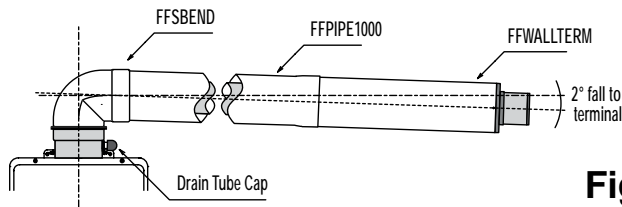

Fig. 2
HORIZONTAL EXTENDED (FIG. 2)
3. To prevent rain water from entering the flue terminal ensure the required 2° fall to outside is achieved (Fig.2 page 2).